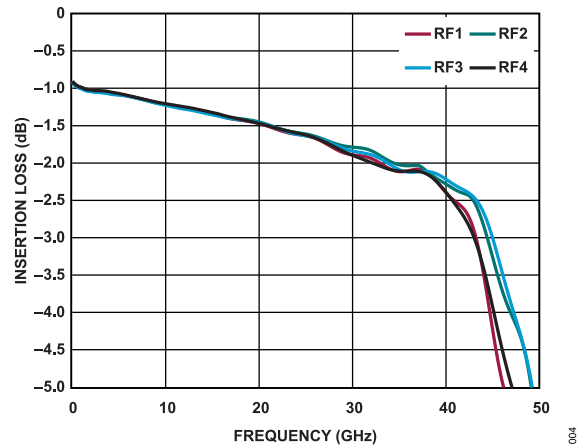

Figure 4. Insertion Loss for RFC to RFx Selected vs. Frequency
6. The ADRF5048-EVALZ is expected to have an insertion loss of 2.4 dB at 40 GHz. See the expected results in Figure 4.